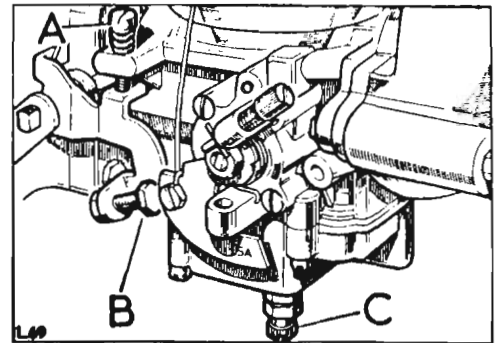

Fig. 9. Carburettor slow-running adjustment, 6-cylinder Petrol models
1. Run the engine until normal operating temperature is obtained. If necessary adjust slow-run screw (A) Fig. 9 to give the correct idling speed.
3. If the engine speeds up immediately the mixture is too rich and the jet adjustment screw (C) Fig. 9 must be turned anti-clockwise when viewed from above, thus weakening the mixture; if the engine stops immediately, the mixture is too weak and the jet adjustment screw should be turned clockwise, again when viewed from above, to enrich the mixture.
Finally adjust the slow-run screw (A) Fig.9, to get a smooth idling speed.
The fast idle screw (B) Fig. 9 should not require adjustment.